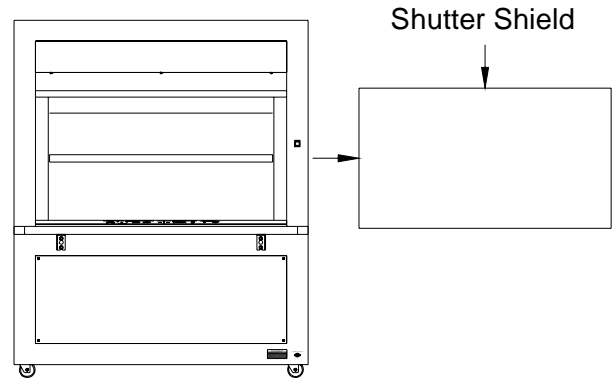

Figure 5-5-1. Shutter Shield
The shutter shield has to be removed from the right side of the Rolloscope as shown in Figure 5-5-1. The procedure is as follows:
- Pull the Shutter Shield (2) out from its supporting channels as shown in Figure 5-5-1.